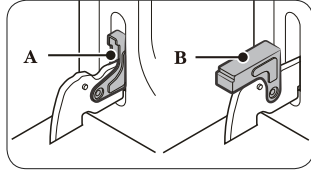

Fig.1
02. Locate the oven door hinge lock in both corners of the oven door, and then rotate the hinge locks toward the oven door to the unlocked position (see Fig.1). If the door hinge lock is not rotated fully, the door will not remove properly.